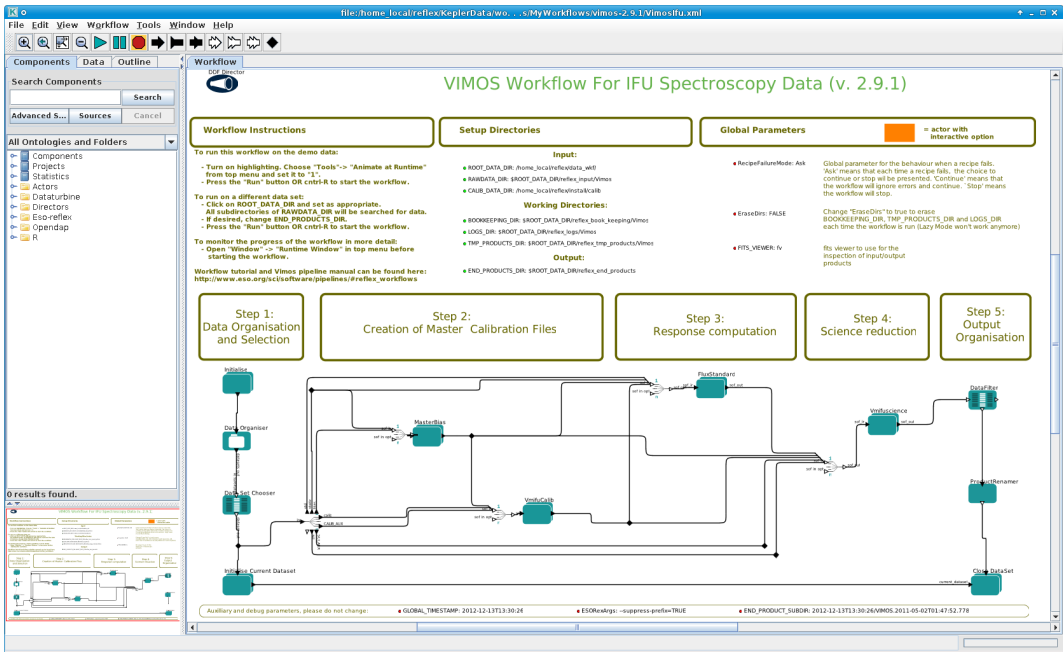

Figure 4.2: VIMOS/IFU workflow general layout.
2. Now open the VIMOS workflow by clicking on File -> Open File, selecting first vimos-2.9.7 and then the file VimosIfu.xml in the file browser. You will be presented with the workflow canvas shown in Figure 4.2. Note that the workflow will appear as a canvas in a new window.